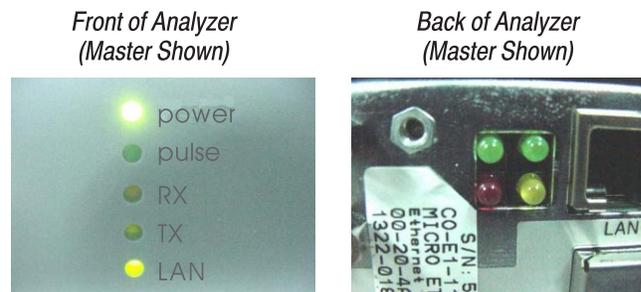

Figure 3
1. For the master analyzer and stand-alone analyzer, examine the light emitting diodes (LEDs) for the following (refer to Figure 3).